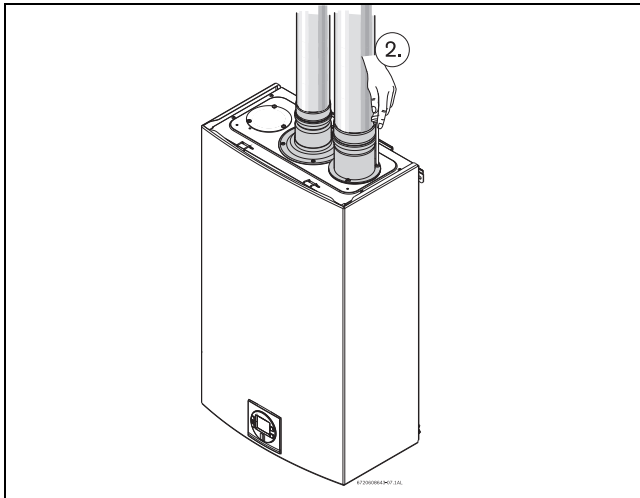

Fig. 19 Inlet connection
- ▶ Attach the combustion air inlet accessory to the top of the unit fig. 19 (position 2) using the 3 screws and gasket provided, and install 3" air intake pipe over the accessory.